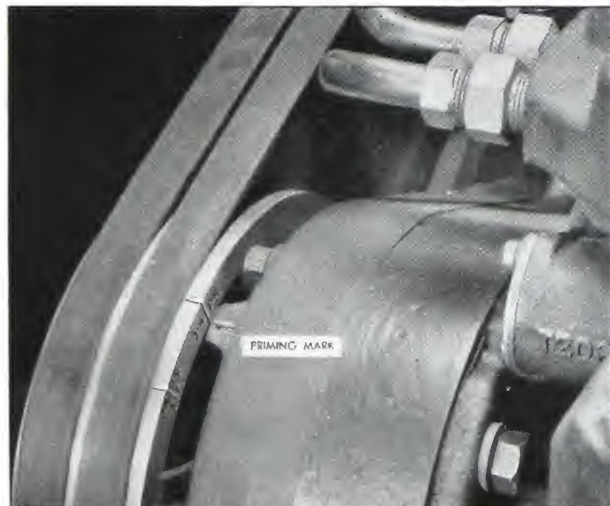

Fig. 12-35. Priming mark
8. With a hand crank, rotate the crankshaft until the intake valve on No. 1 cylinder starts to open. Continue to crank the engine in operating direction until the first "PR" mark on the water pump drive pulley comes to the timing mark on the gear cover. Fig. 12-35.